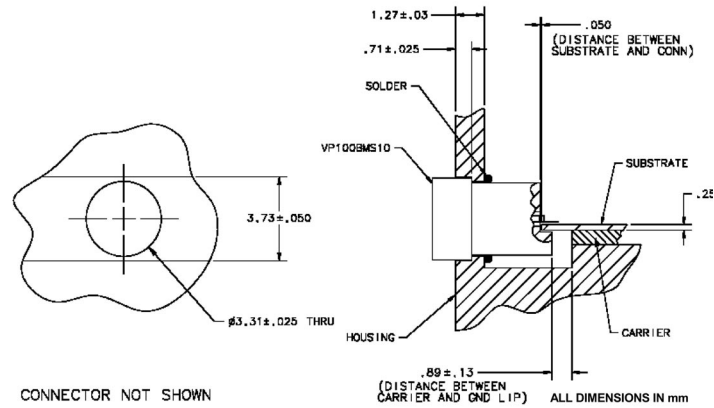

Figure 3. VP100BMS10 Mounting Hole Dimensions and Assembly for a Thin Wall Housing
- For a thin-wall housing, place one or two solder washers over the shroud inside the housing as shown in Figure 3.